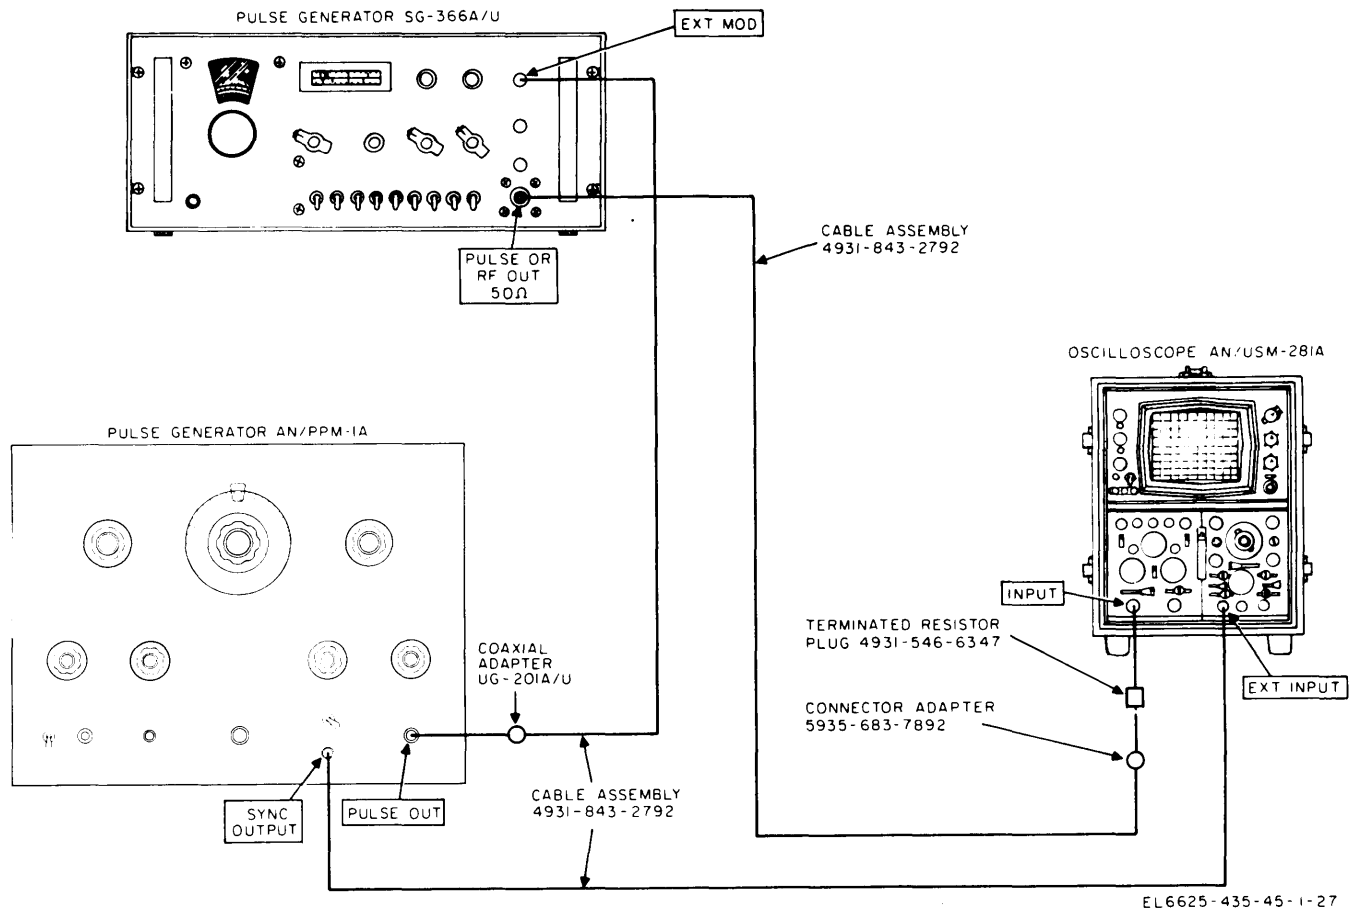

Figure 4-7. External modulator test, equipment setup.
- (1) Oscilloscope AN/USM-281A.
- (2) Pulse Generator AN/PPM-1A.
b. Test Connections and Conditions. Connect the equipment as shown in figure 4-7.